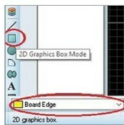

Fig. 23: Selecting Board Edge option
8. Create a board edge. Select 2D Graphics Box Mode in the left corner and select Board Edge from the dropdown list in the left-most corner (Fig. 23).